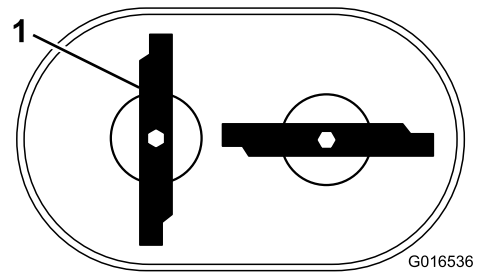

Figure 46
**Note:** The blades should be perpendicular, forming an inverted “T” as shown in Figure 46.